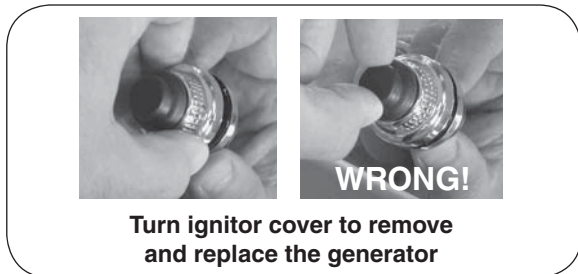

Fig. 1-3 Remove battery cap
5. Remove the battery cap by turning the ignitor cover counter-clockwise (Fig. 1-3).
Note: Do not attempt to pull or turn the rubber cap (Fig. 1-3).